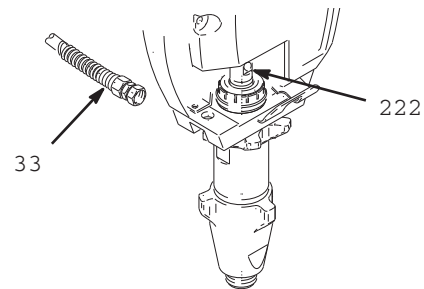

FIG. 3
2. Cycle pump piston rod (222) to lowest position (FIG. 3). Turn engine off.